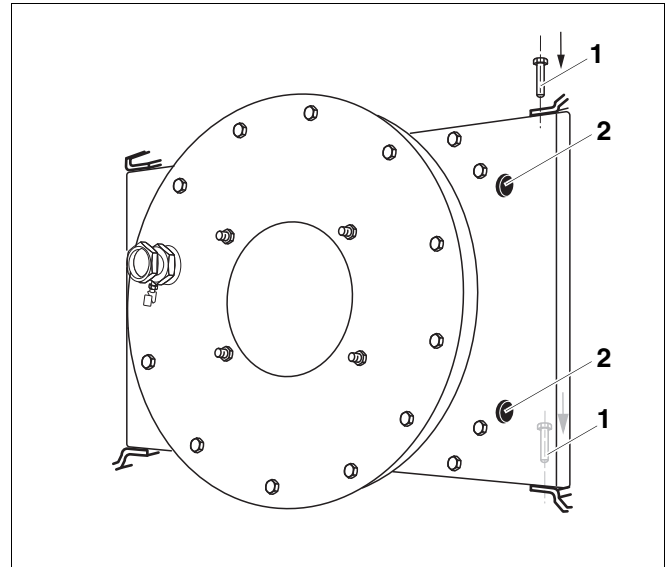

Fig. 8 Burner door
- Re-insert the washer and two hinge bolts on the opposite side (Fig. 8).